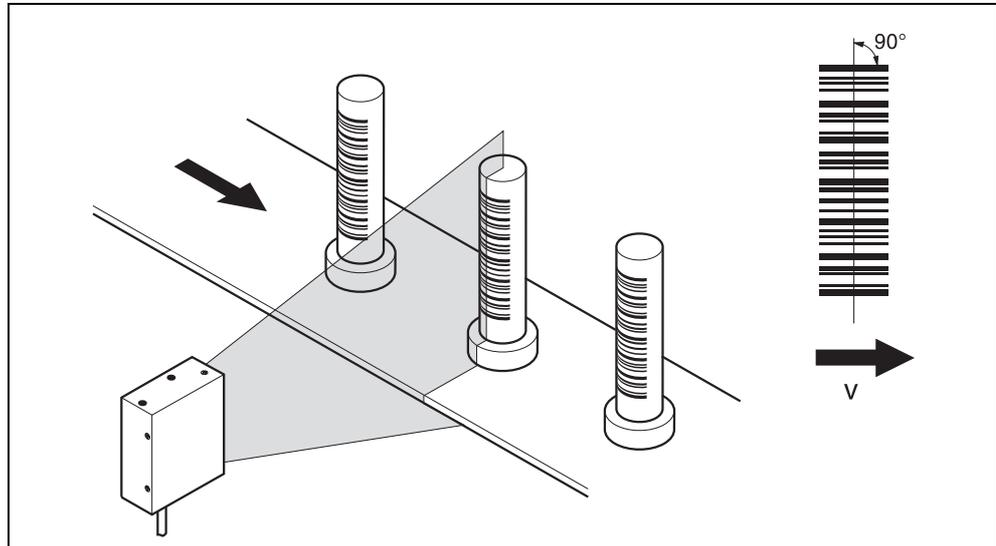
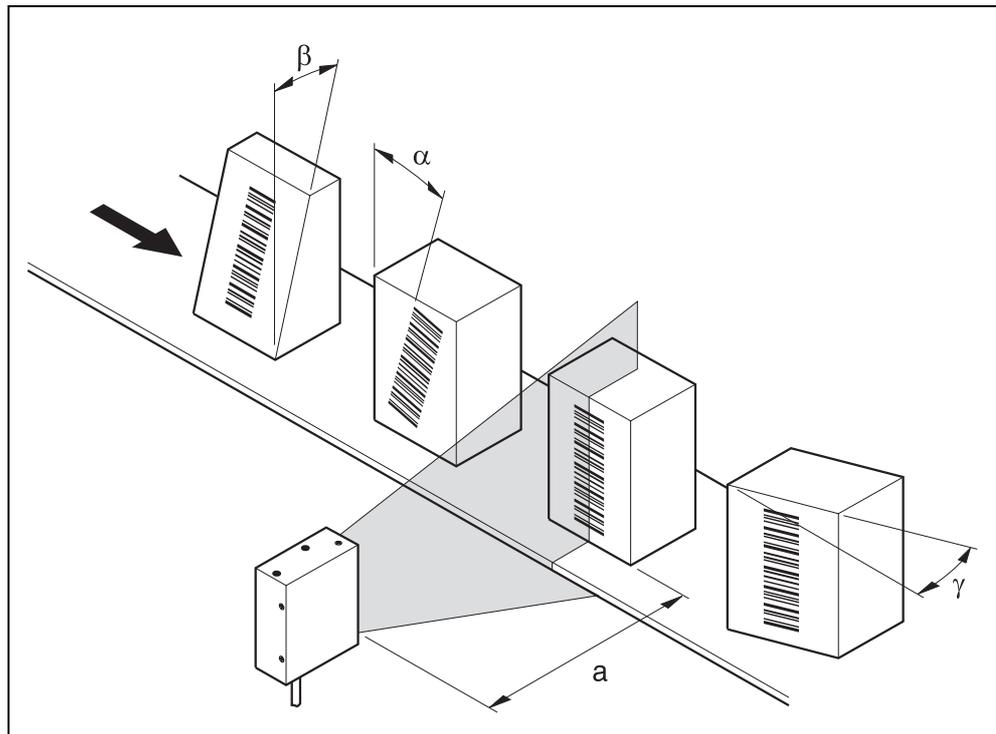

Fig. 4-3: 90° angle between the scan line and the bar code bars
Fig. 4-4: Reading angle occurring between the scan line and the bar code bars
The optimum alignment of the CLP 100 is reached at an angle of 90° between the scan line and the bar code bars (refer to Figure 4-3). Possible reading angles which can arise between the scan line and the bar code bars must be taken into consideration (refer to Figure 4-4 and Table 4-1).
1. Align the CLP 100 so that the angle between the scan line and the bar code bars amounts to 90° . Take any possible reading angle occurring into consideration (refer to Figure 4-4).